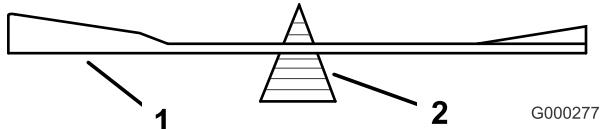
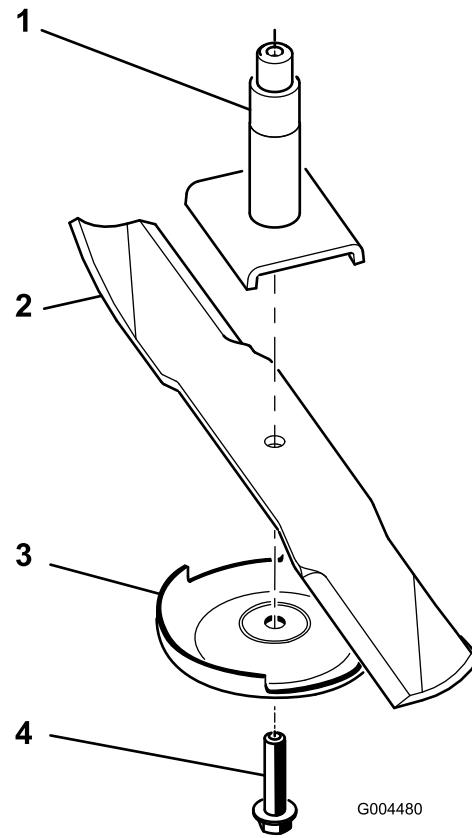

Figure 75
Figure 76
2. Remove the blade bolt, anti-scalp plate, and blade from the spindle shaft (Figure 76).
2. Check the balance of the blade by putting it on a blade balancer (Figure 75). If the blade stays in a horizontal position, the blade is balanced and can be used. If the blade is not balanced, file some metal off the end of the sail area only (Figure 76). Repeat this procedure until the blade is balanced.
1. Install the blade onto the spindle shaft (Figure 76).
2. Install the anti-scalp plate and blade bolt (Figure 76).